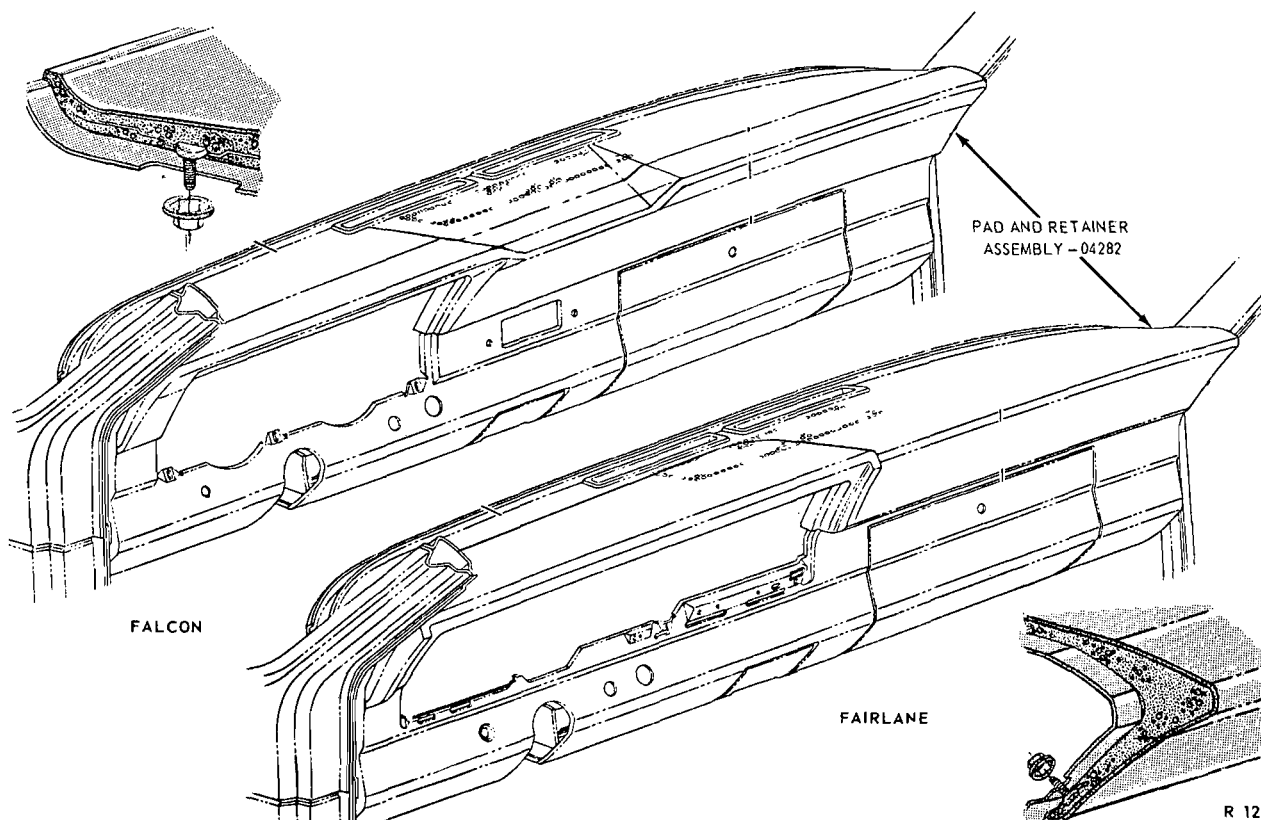

FIG. 16—Instrument Panel Pad Installation—Falcon, Fairlane
1. Position the new safety cover to the instrument panel (Figs. 16 and 17).